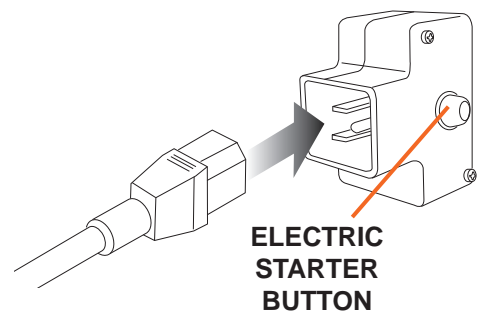

Figure 10
4. Push the electric starter button and hold for no more than 10 seconds at a time, until the engine runs (see Figure 10).